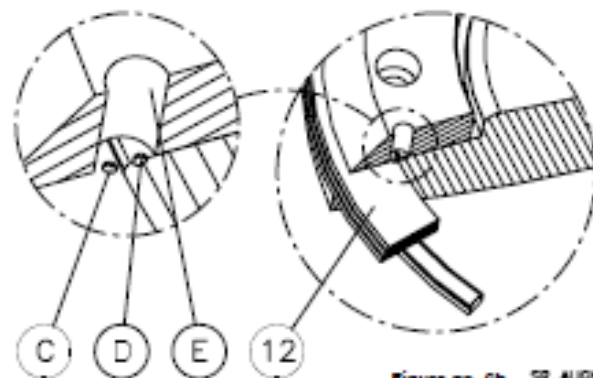

Figure no. 6b SR_ALIGN
- solution 2 - ref. to figure no. 6b - align the reference mark (C) on the seal ring (12) with the relevant reference mark (D) on the disc.
- solution 2 - ref. to figure no. 6b: ensure to locate the hole (E) of the seal retainer ring with the relevant marks on the disc (D) and seal ring (C).